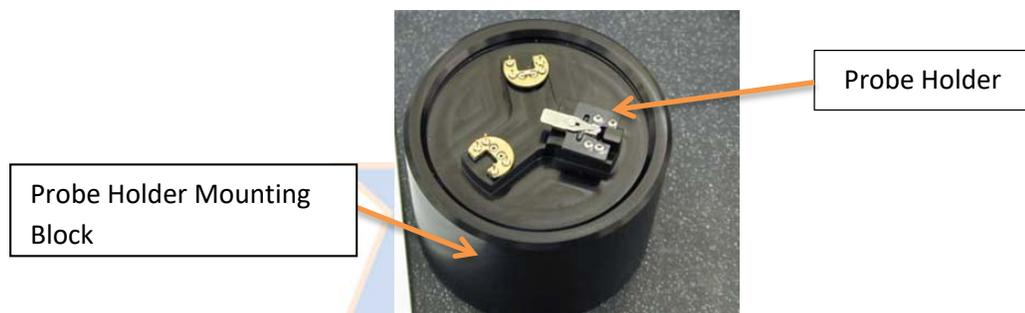

Figure 2. Probe holder mounting block with three probe mounting stations.
- a) Place the probe holder on one of the three stations atop the probe holder mounting block (Figure 2).
- h) Place the probe holder on mounting block (Figure 2) and remove the probe. Place the probe back in the box and location it came from. Ensure the probe is turned perpendicular to unused probes to indicate that it has been used. Detail the condition of the probe on the box label.